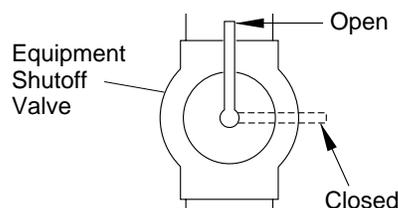

Figure 21 - Equipment Shutoff Valve
1. Close equipment shutoff valve (see Figure 21).
1. Open equipment shutoff valve (see Figure 21, page 11).